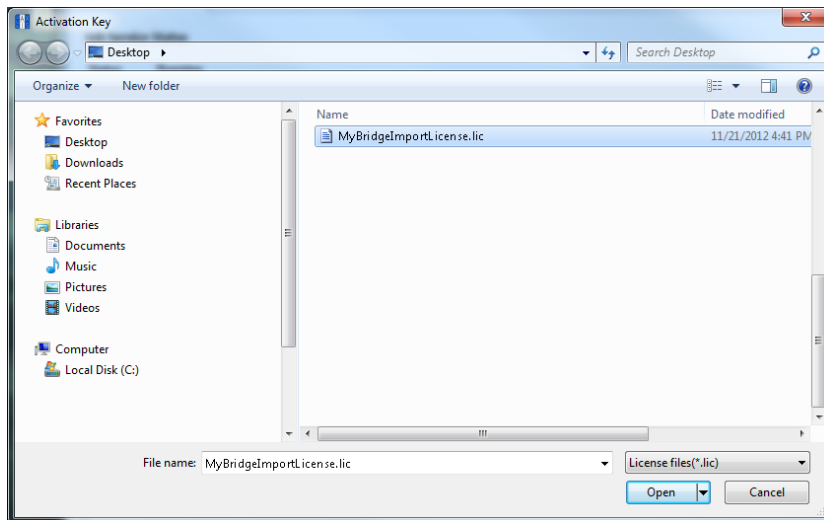

Figure 1-3. Activation Key
- 3 Click **Activate Bridge Import License**. When the *Activation Key* dialog box opens, navigate to the license file and select it (Figure 1-3, page 8).